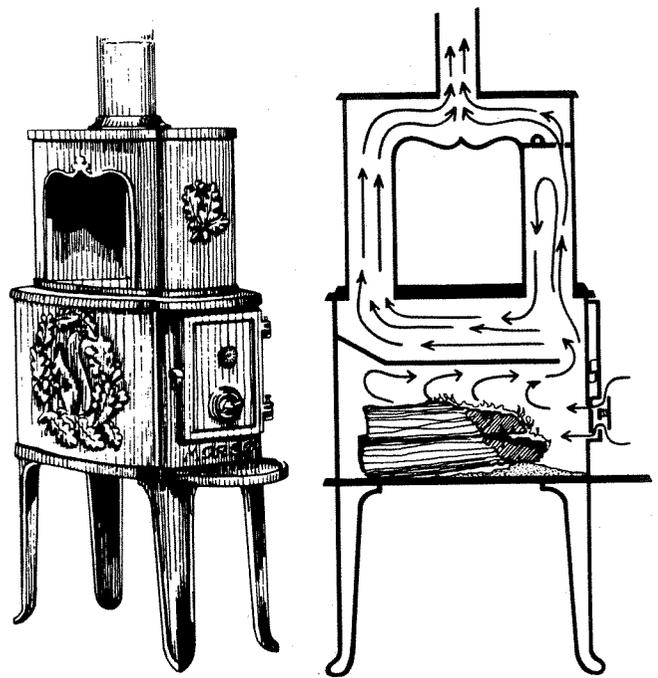

Fig. 16. Morsø Model 1B0 box stove (left) showing smoke flow-pattern and baffle system (right).
20. **Southport Stoves**, Division of Howell Corporation (importer), 248 Tolland St., East Hartford, CT 06108. The Morsø cast-iron stoves (Fig. 16 and Table 1) have been made since 1853 by N.A. Christensen Co. of Denmark. Many of their early designs are now in art museums. The iron is cast in